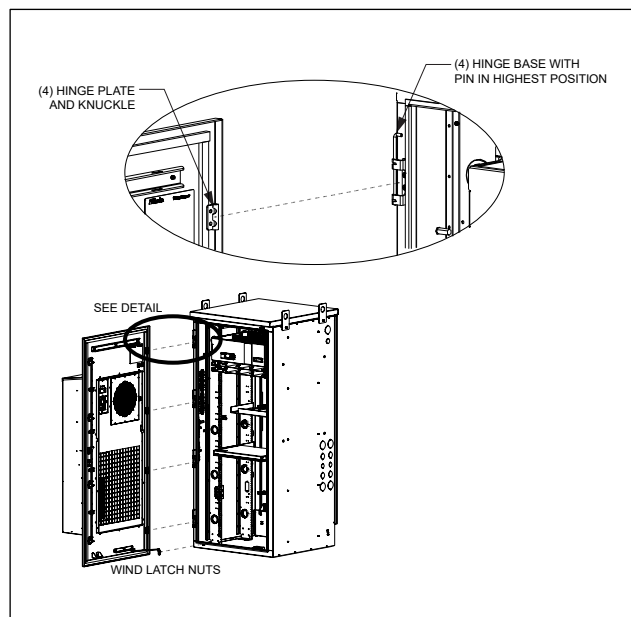

Figure 6 Door Removal and Mounting
2. Remove the two nuts that connect the wind latch to the CUBE (Figure 6). Save the nuts for later use.